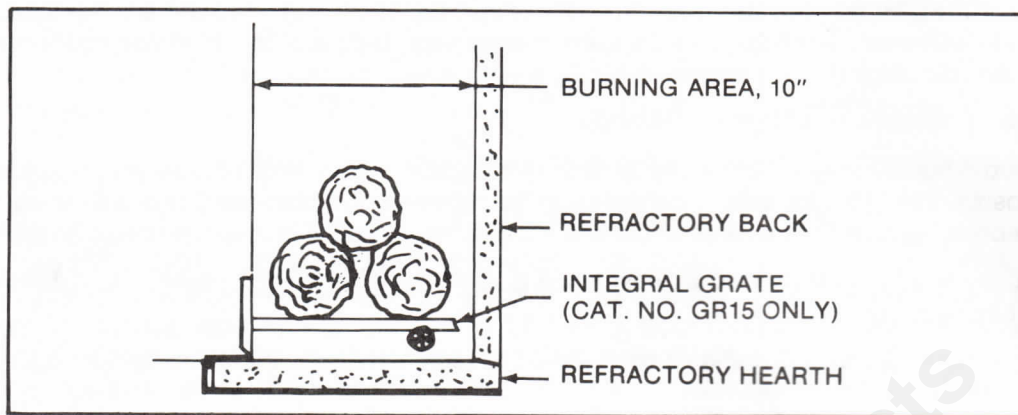

Figure 20
E. GRATE. The factory installed Integral Grate must be used to hold the logs from falling out of an open fireplace and to allow air to pass between the burning logs. It is important to keep the fire off the hearth and to allow the ashes to collect beneath the fire, thereby forming a layer of additional heat protection. See Figure 20. Use only Catalog Number GR15 Integral Grate for replacement.
- I. **SETTING THE FIRE.** Check the flue damper to be sure it is fully open. Place crumpled or twisted paper under the Grate. Loosely arrange kindling or small pieces of wood to form a layer above the paper. Place three logs in a rough pyramid as shown in Figure 20, being sure to allow free air space between the logs. Small sticks of wood may be used to separate the logs. **NOTE:** When heated the first time, the temperature of the fireplace must be raised gradually, to prevent moisture within the refractory from causing cracks, and to allow the binders in the insulation to dissipate.